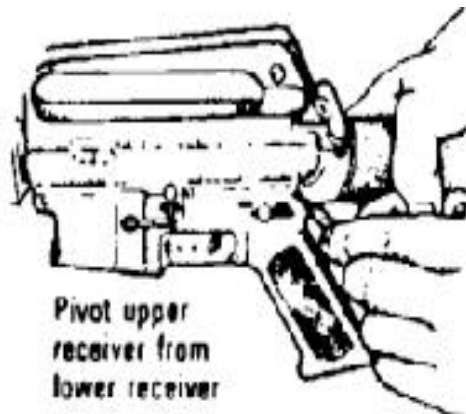

Figure E-6. Pushing the takedown pin.
- d. Push the takedown pin as far as it will go and pivot the upper receiver from the lower receiver (figure E-6).